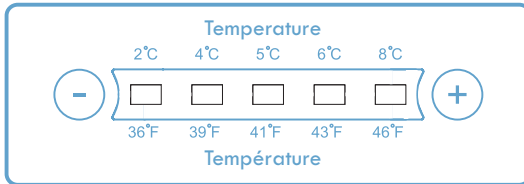

Fig.2.
- 7) Remove hole plugs from left side and move them to opposite side (see **Figure 2** on following page).
- There is a digital temperature display panel in the REFRIGERATOR compartment (see **Fig.2.**). The digits on the upper line are in degrees Celsius, while the bottom digits are in degrees Fahrenheit.